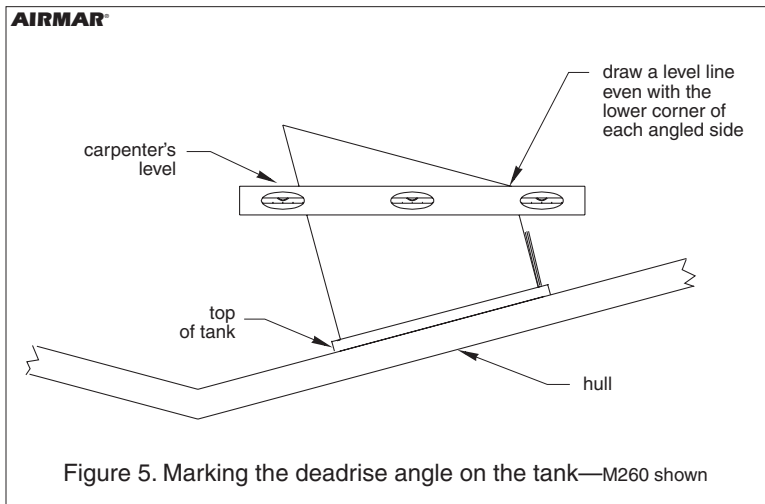

Figure 5. Marking the deadrise angle on the tank—M260 shown
1. When you are satisfied that the location of the transducer is optimal, place the tank *up-side-down* on the hull at the selected mounting location (see Figure 5). *Be sure the tallest side of the tank is nearest the centerline (keel) of the hull.*